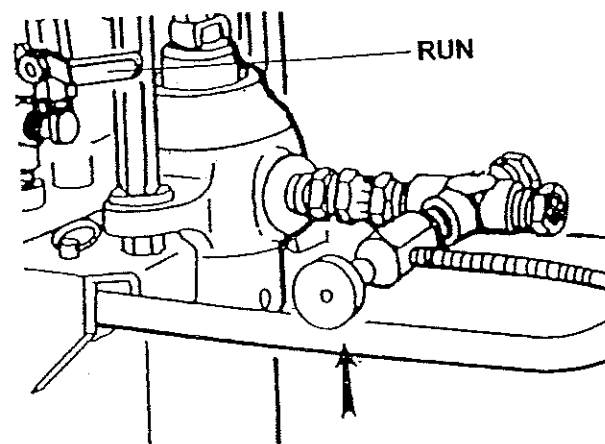

FIGURE 4.
6. Open the Pressure Bleed Valve by turning it counterclockwise. This relieves pressure. See Figure 4.
- D. Close Pressure Bleed Valve by turning it clockwise. This allows the system to pressurize. Hold gun trigger open, without spray tip attached, until the fluid flows smoothly. See Figure 4.